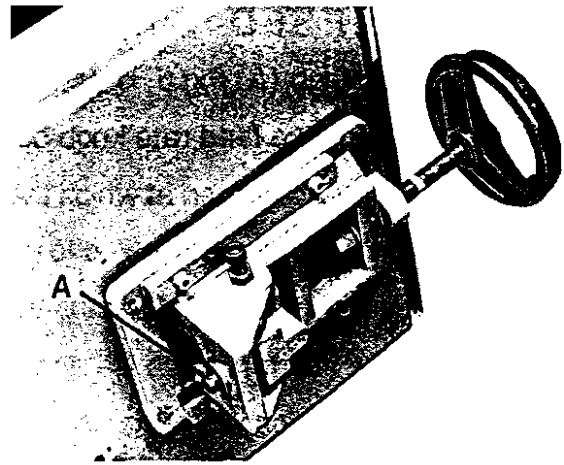

FIG. 4
The blade is tracking properly when the back of the blade is against wheel flanges of both wheels. If the back of the blade is not against the wheel flanges, tighten or loosen screw (A) Fig.4, until the blade is tracking properly.